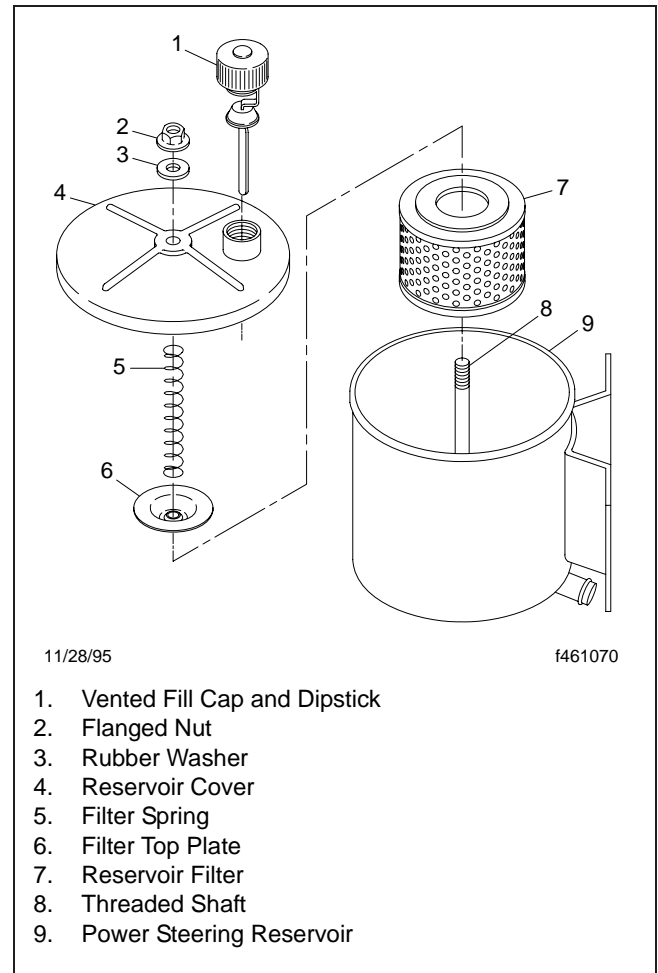

Fig. 1, Power Steering Reservoir (exploded view)
2. With the engine cool, use a shop towel or a clean rag to clean the area around the power steering reservoir fill cap. See **Fig. 1**. Twist the cap counter-clockwise to remove the cap and dipstick assembly. Check the cold power steering fluid level. The level should be at FULL COLD with the engine off.